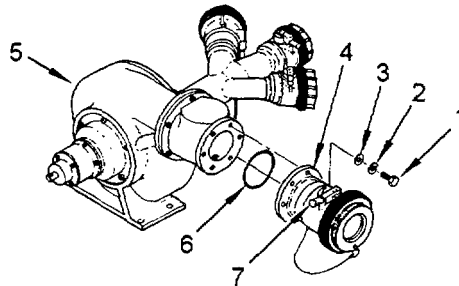

Figure 4-7. Flange Mounted Unisex Coupling O-Ring Replacement
4.11.1 Replace Flange Mounted Three-Inch Unisex Coupling O-Ring. (Refer to figure 4-7.)